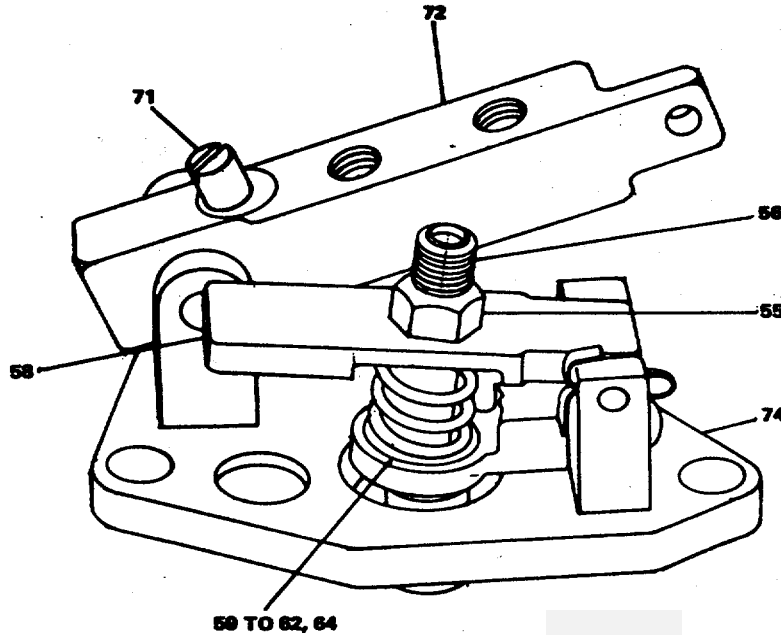

Figure 12-11. Clamp Bracket Subassembly
- (6) Assemble clamp bracket (74, figure 12-11), restoring spring assembly (59 to 62, 64), transducer lever (58), restoring lever (72), eccentric pin (71), adjustable spring seat (56), and pilot valve plunger nut (55).